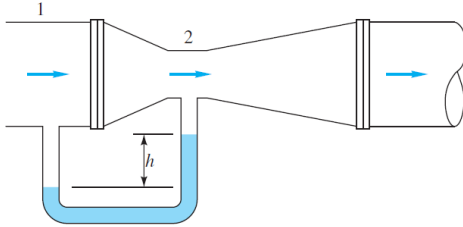

Fig. 3.18
3.18 A venturi meter, shown in Fig. 3.18, is a carefully designed constriction whose pressure difference is a measure of the flow rate in a pipe. Using Bernoulli's equation for steady incompress-